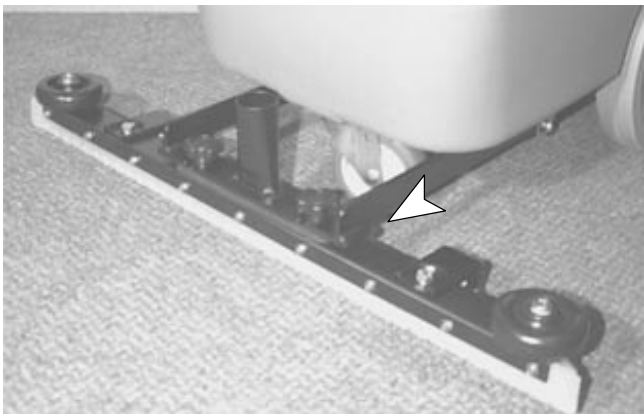

FIG. 5
10. Attach squeegee assembly to bracket. Use (2) thumb screws to secure (*Figure 5*).